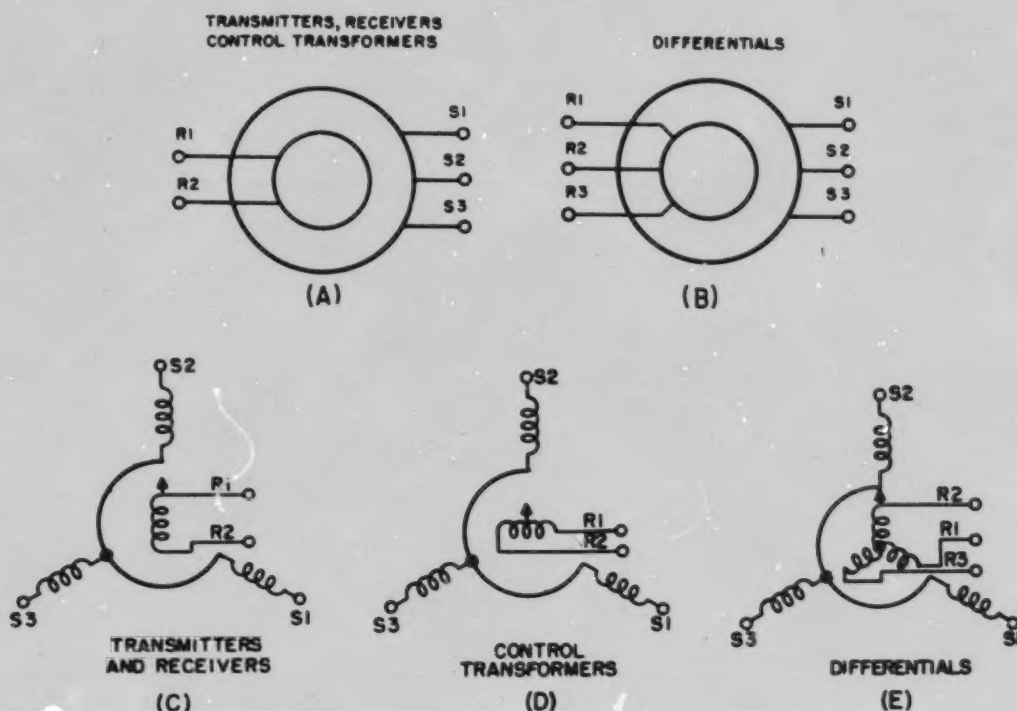

Figure 7-22.—Schematic symbols for synchros.
A synchro consists of a rotor (R) and a stator (S). The letters R and S are used to identify rotor and stator connections both on the synchro and in wiring diagrams and schematics. Synchros are represented by the symbols shown in figure 7-22. The symbols shown in parts (A) and (B) are used when it is necessary to show only the external connections to a synchro, while those shown in parts (C), (D), and (E) are used when it is important to see the positional relationship between rotor and stator. The small arrows on